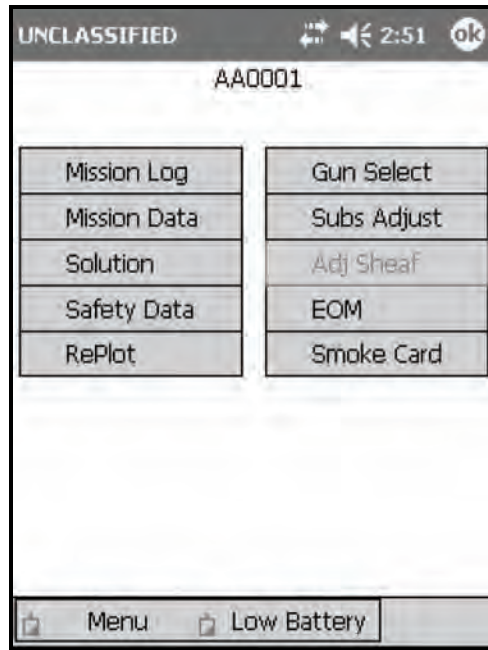

Figure 18-5. <Target> screen.
<Target> button	The <Target> button (labeled AA0001 in Figure 18-5) displays the <Target> screen.
- (11) Select the Shot button.
- (12) Select the <Target> button.
- (13) The <Target> screen (Figure 18-5) displays. The <Target> screen allows the operator to review, verify, and adjust fires; and modify or end the active mission; and provides access to all mission functions of the active mission. The target number is displayed at the top of the screen (AA0001 in the example). Table 18-4 outlines all <Target> screen buttons and related information.